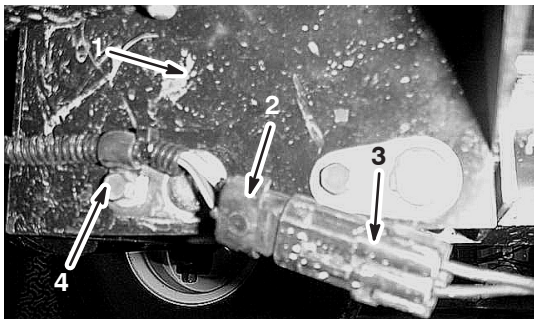

Figure 15
4. Slide an R-clamp over the harness near the end (Fig. 15).
5. Connect the terminal connector on the dash harness to the connector on the brake switch harness under the vehicle (Fig. 15).
7. Attach the R-clamp to side of the pedal box with the bolt that secures the accelerator pedal pivot rod to the brake box (Fig. 15).